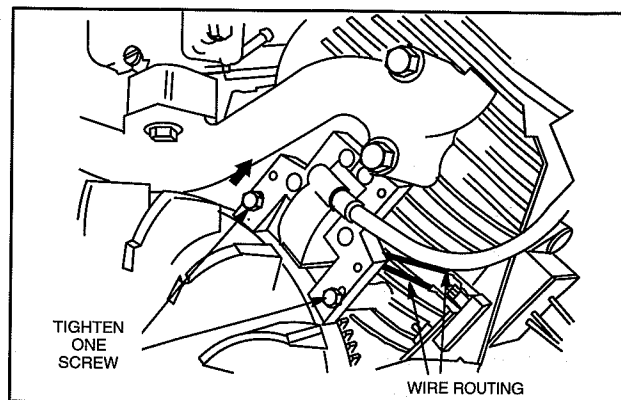

Fig. 2 - Install Armature
3. Assemble armature to engine, Fig. 2.